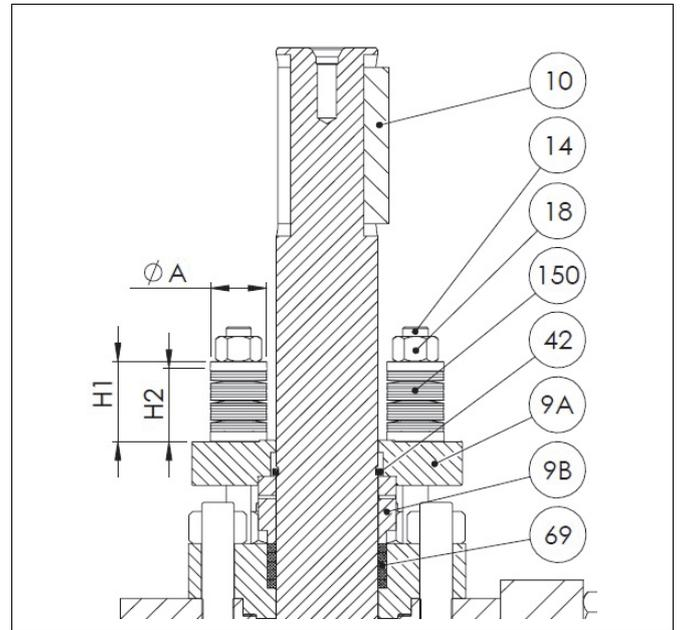

Fig. 10 Gland packing
- Remove the key (10).
- ❑ Remove the nuts (18), the disc spring sets (150) the gland (9A), retainer ring (42) and sleeve (9B).
- ❑ Remove old packing rings (69). Do not damage the surfaces of the packing ring counterbore and shaft.
- ❑ Place the new packing rings (69) over the shaft (5). The gland follower may be used for pushing the rings into the counterbore. Do not damage packing rings in the shaft keyway.
- ❑ Pre-compress the packing rings first either by tightening the gland nuts (with or without disc springs) to the torque  $T_t$  or by tightening the gland with disc springs to the height  $H_2$ . See Fig. 10 and the value from Table 1.
- ❑ Loosen the gland nuts. Place the disc spring sets (150) on the gland studs as applicable. Retighten the nuts (18) to the torque  $T_t$  or so that the disc springs are compressed to the height  $H_2$ , see Table 1.